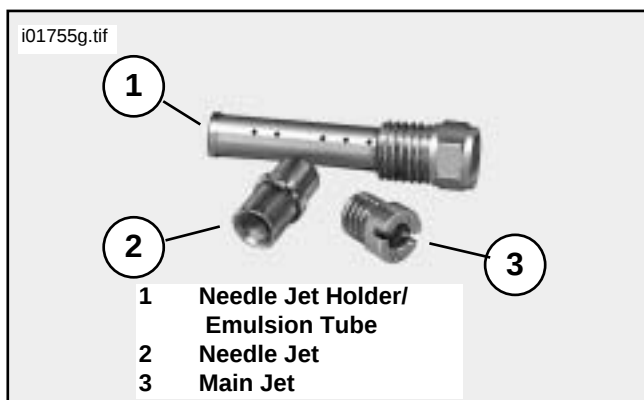

Figure 2. Stock Carburetor Jets and Holder
4. See Figure 2 and Service Parts Illustration. Place the carburetor upside down on a bench. Remove the chamber assembly and the carburetor float bowl. Set the float bowl aside for later assembly. Remove the stock main jet and the emulsion tube, sometimes referred to as the main jet holder. Ensure that the Needle Jet does not fall out during this procedure. Replace the stock jet holder with the new DYNOJET emulsion tube (10) provided. When the DYNOJET emulsion tube is fully seated, there will still be threads visible. Install the DYNOJET main jet provided. Use the DJ160 main jet with a completely stock bike. Use the DJ170 main jet with an aftermarket airbox, or exhaust. With an aftermarket exhaust, airbox and cam use DJ180 main jet. If you have internal motor modifications, use the DJ190 main jet.